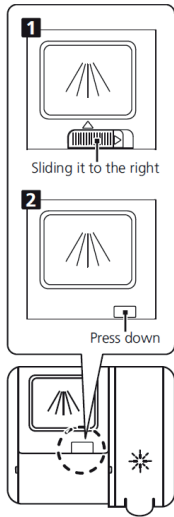

Fig.7
- Method 2: Open the lid by pushing the release latch. (Fig. 7).